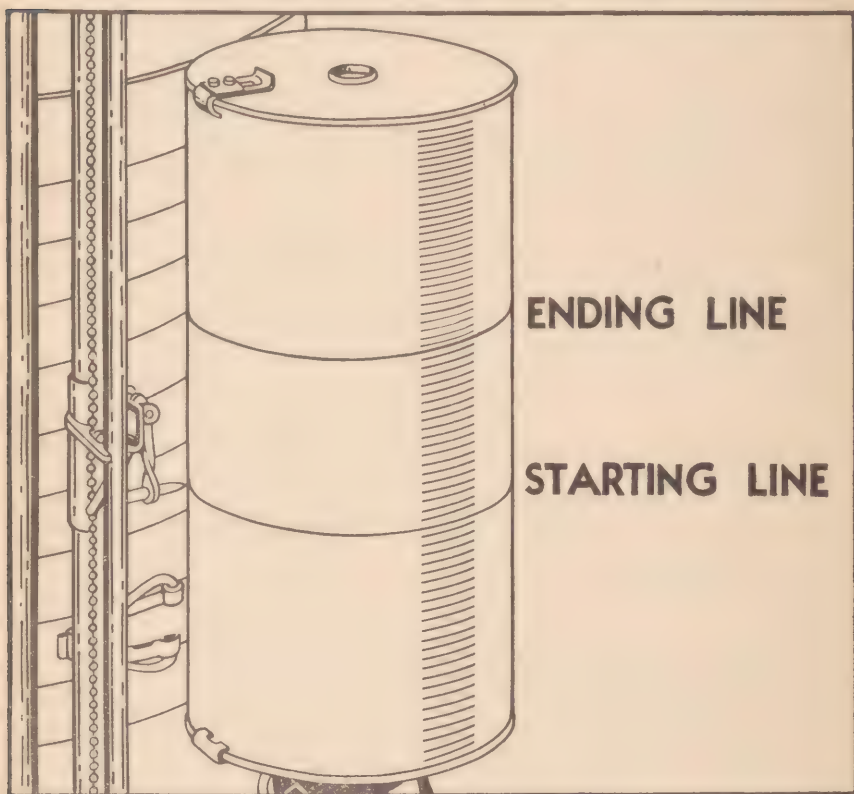

Figure 9. Tracing line around chart.
(8) Turn chart cylinder counterclockwise one full turn by hand to trace a line around the chart.
(9) Open bellows valve to admit oxygen slowly from measuring chamber to bellows.
(10) Turn cylinder counterclockwise one full turn by hand to trace a second line around the chart. (See fig. 9.)
(11) Admit more oxygen to the bellows from the oxygen cylinder to lower the writing point about $\frac{1}{2}$ inch.